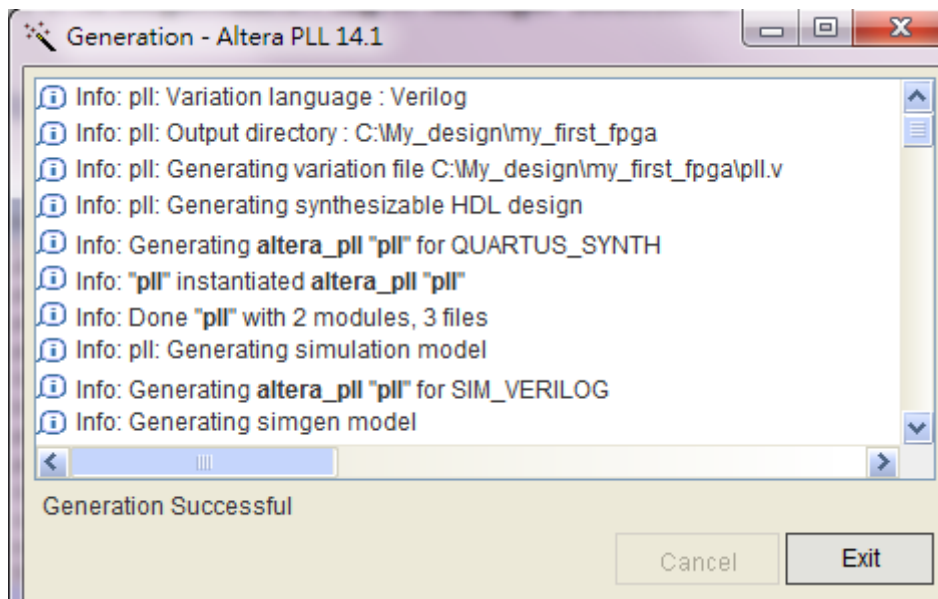

Figure 3-13 PLL Generation
8. Click Finish. It leads to Figure 3-13. Click Exit.